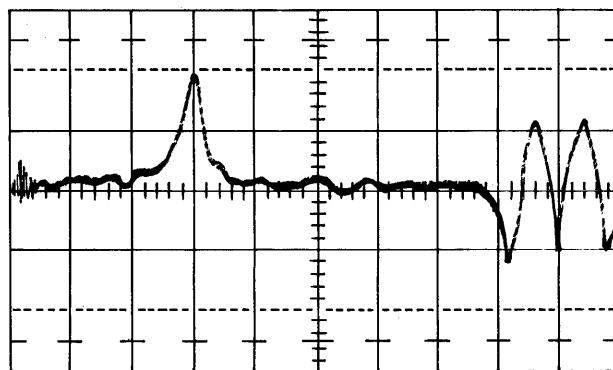

Figure 2-18. Radial Adjustment Waveform
- a. Observe that first pulse is 3 ± 2 microseconds from index pulse (start of sweep, Figure 2-18) and that burst of data pulses starts $5 (+1, -0)$ microseconds from first pulse.
- b. To adjust for radial alignment, observe waveform (Figure 2-18) of either head 9 or 10, and adjust radial adjustment locknut of index transducer.